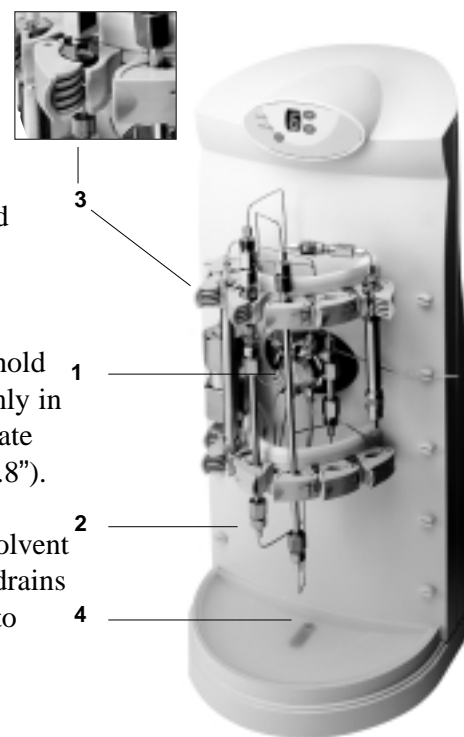

Fig. 2. Column Selector with cover removed.
2. Figure 2 shows a front view of the 6-column selector with the cover removed.
- a) The valve (1) is located to provide easy access to the liquid-end should servicing be required. The supplied Rheodyne fittings and tubing (2) match the valve's material of construction.
- b) The column clips (3) are spring loaded and hold columns from 3.2-25.4 mm (1/8-1") OD firmly in place. The Column Selector can accommodate both long and short columns, 5-35 cm (2-13.8").
- c) A built-in drip tray (4) safely contains any solvent spills. The drain tube connected to the hole drains solvents to waste. The tube can be adjusted to terminate to waste in any direction.